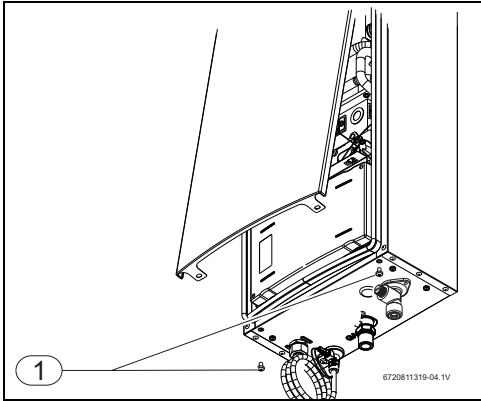

Fig. 18 Remove the front
- ▶ Loosen the 2 fixing screws from the front (Fig. 18, [1]).